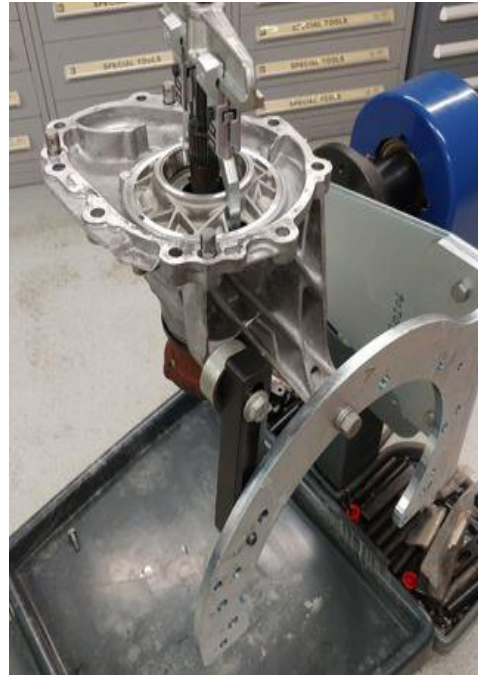
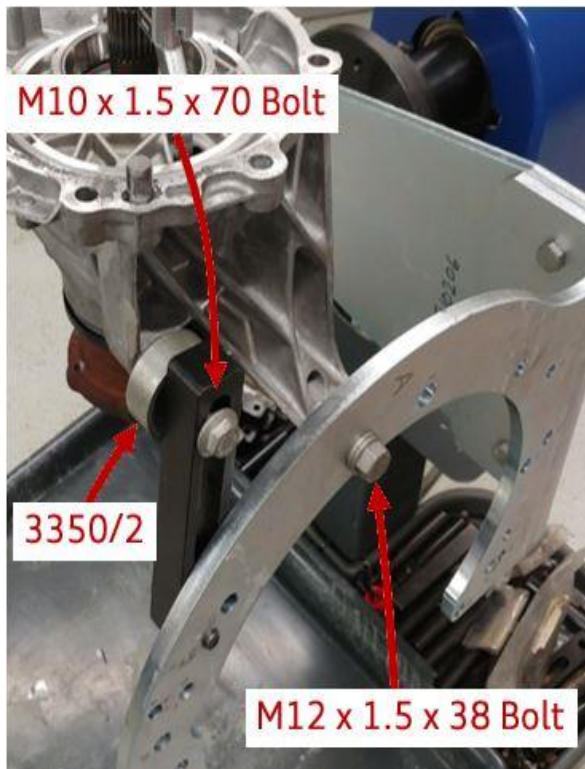
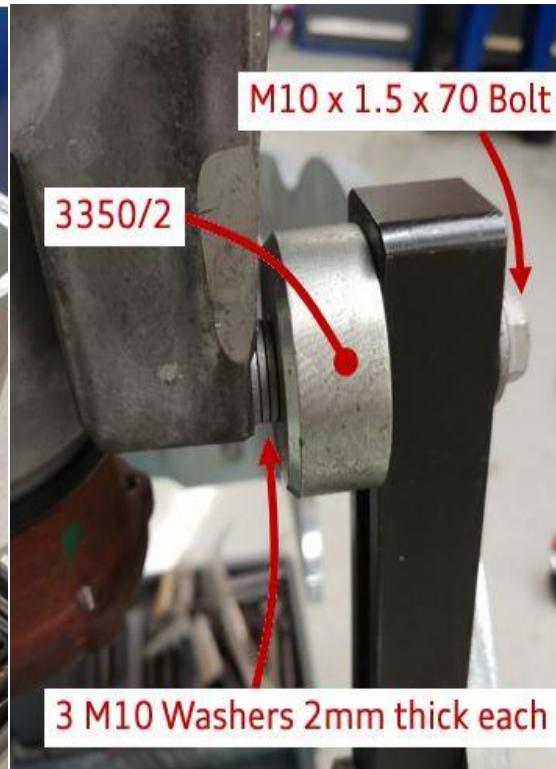

Figure 3. Mounted side carrier.
Figure 4. Mounting detail.
Figure 5. Mounting.
5. Mount the side carrier as shown below (Figure 3) to the VAS6095 using T40206, T40206/1A, one long slotted arm from the VAS6095, 3350/2 (Figure 4 and Figure 5), three M10 flat washers 2mm thick each (Figure 5), one M10 x 1.5 x70 bolt (Figure 4 and Figure 5), and one M12 x 1.5 x 38 bolt (Figure 4).